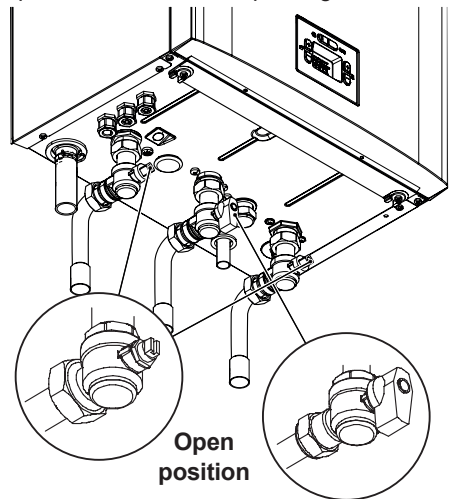

Fig. 2.5
- Check that the valves located in the lower part of the boiler are open Fig. 2.5.